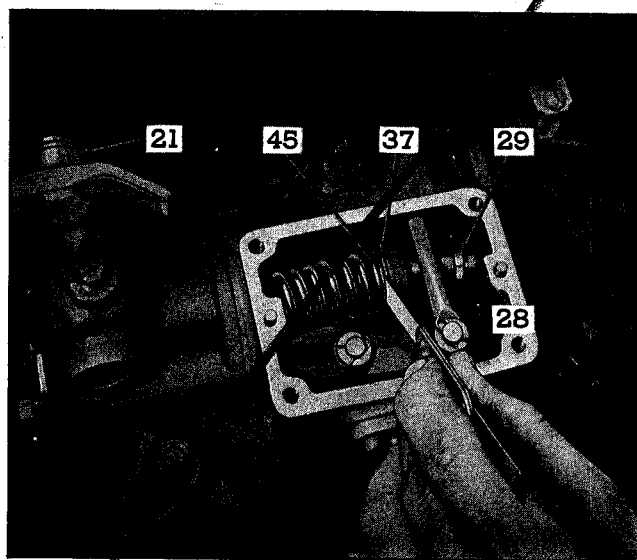

Fig. 9—Adjusting Governor Gap.
2. Place speed control lever (21), Fig. 9, in the FULL FUEL position.
3. Insert a .006" feeler gauge between the spring plunger (45) and the plunger guide (37). If required, loosen lock nut (29) and turn adjusting screw in or out until a slight drag is noted on the feeler gauge.